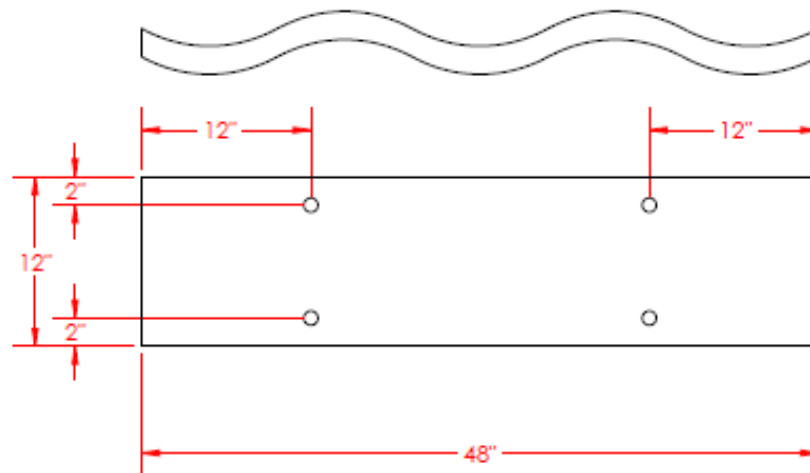

Figure 5: Double Mini Wave Panels
- 2) For horizontal application, each double mini, standard and large wave panel should be equipped with 4 1-1/4" or 2-7/8" (depending on thickness of panel) long corkscrew hangers. Maximum distance between hangers should be no greater than 24" for double mini and standard wave panels, and 60" (max.) for large panels. Use the diagram shown in Figures 5, 6 and 7 below as a guide.